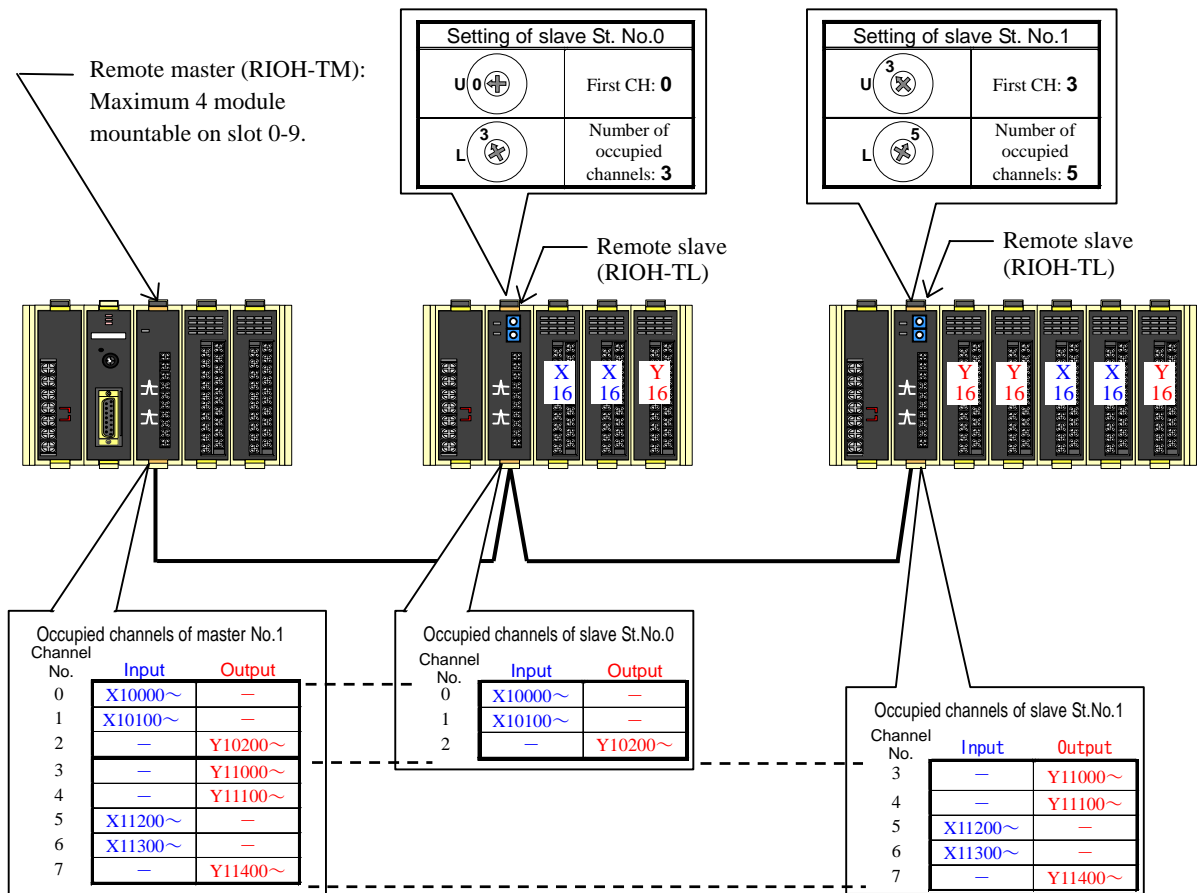
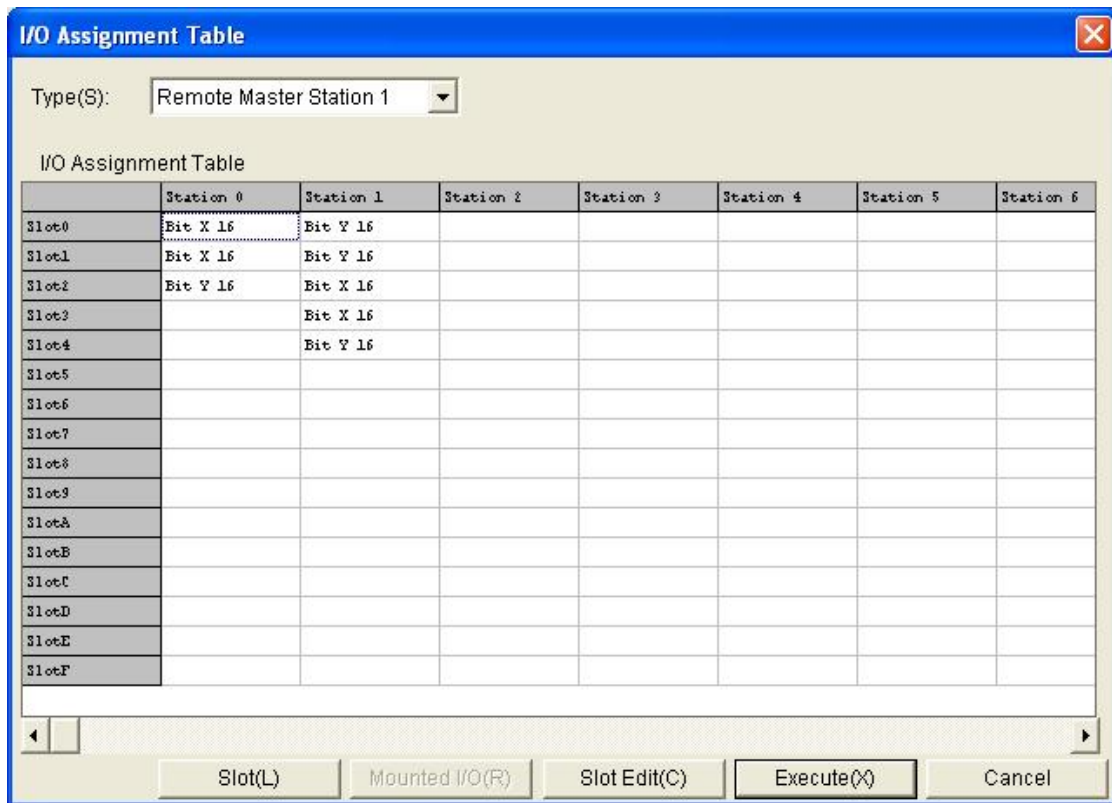
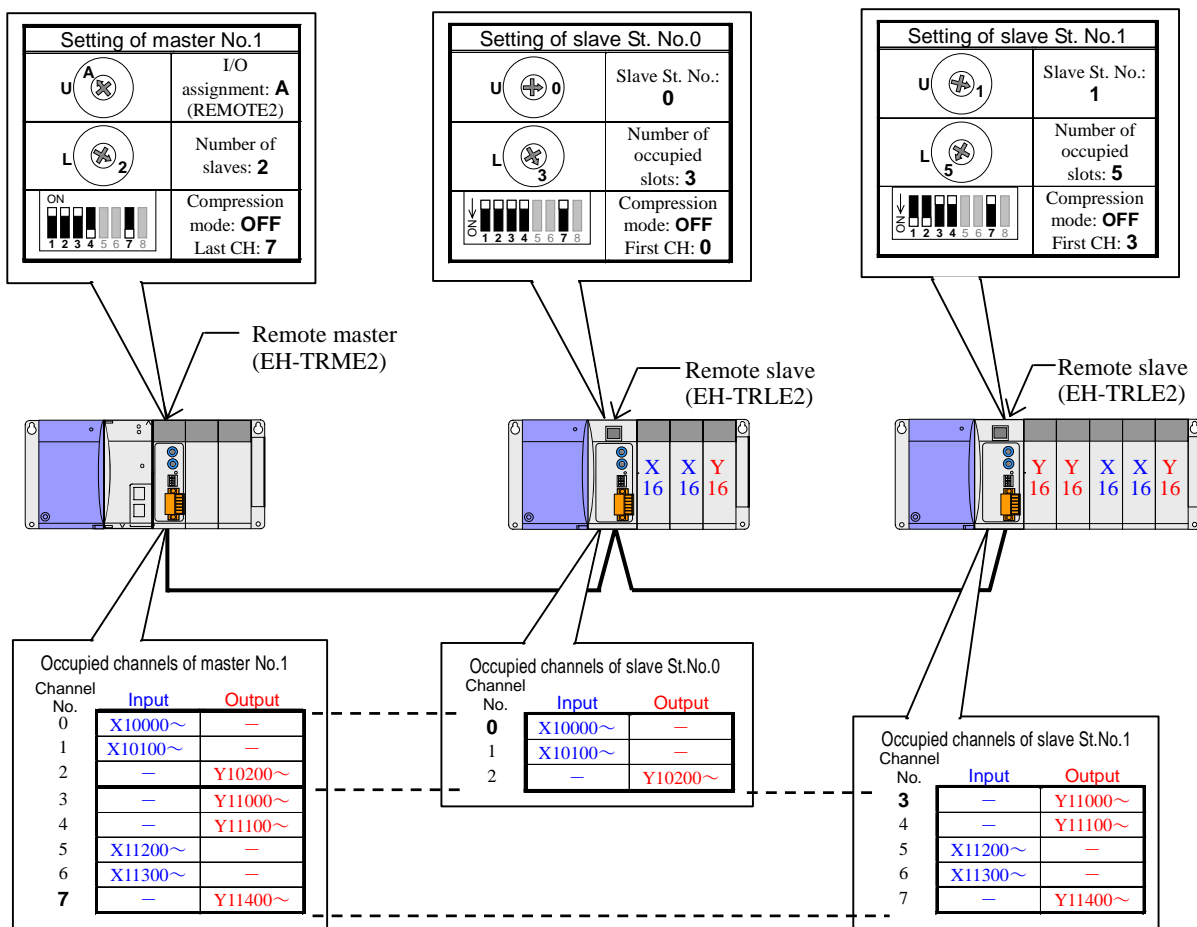

Figure 4.4.1 System configuration example of H-200 series (Not using image slot)
Figure 4.4.2 I/O assignment example of remote I/O
Figure 4.4.3 System configuration example after replacement to EH-150 (Not using image slot)
Figure 4.4.1 shows the system configuration example of the H-200 series not using image slot. Figure 4.4.2 shows I/O assignment for remote bases of this system. Figure 4.4.3 shows the replaced system configuration example of the EH-150 series. In this case, it is necessary to change I/O assignment of master module from "Remote" to "REMOTE2".
Figure 4.4.3 is an example of replacing all of master and slave modules with the EH-150 series. It is also possible to leave all or partially slave modules like the H-200 series in order to postpone the wiring work of slaves. In this case, please turn off high-speed refresh mode (HS) of a front DIP switch of the master module and the slave modules, and turn on communication mode (MODE) of a front DIP switch of them.
(Assignment of Figure 4.4.1 configuration example by Ladder editor)